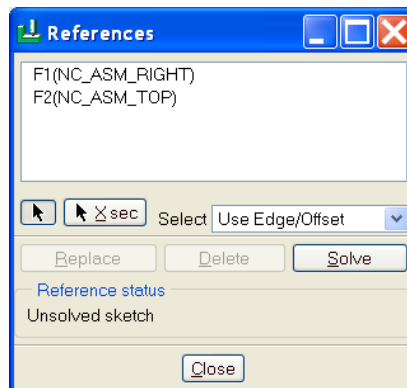

Figure 1.44
- References Window pop up. Select two planes as shown in Figure 1.44.